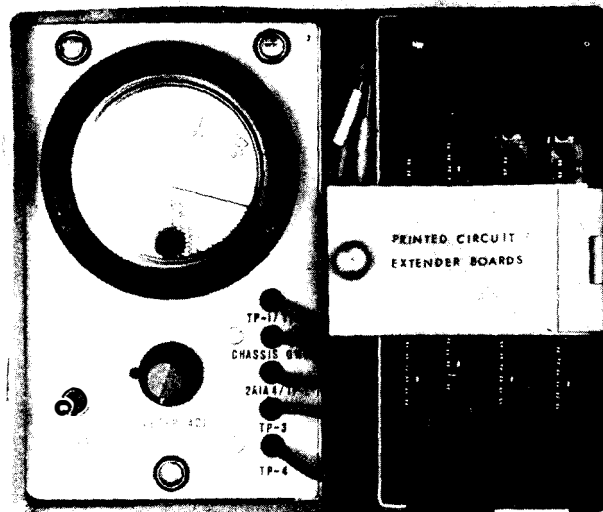

Figure 5-1 Servo Alignment Test Set TS-3228/URA-38
5-13. SPECIAL FIXTURE. Test Set TS-3228/URA-38 is shown in figure 5-1.
- a. Set the mode selector switch to MANUAL and drive the variable inductor (L) and variable capacitor (C) out of the Home end stops.
- d. Loosen the front panel captive screws (4) on the C-3698/URA-38 and swing the chassis out from its case.
- f. Connect the leads of the test fixture to the points indicated in Figure 5-1 on the servo board under test. Simulate a Keyed condition by grounding the Keyline feed thru bypass capacitor 2A2A1C2.